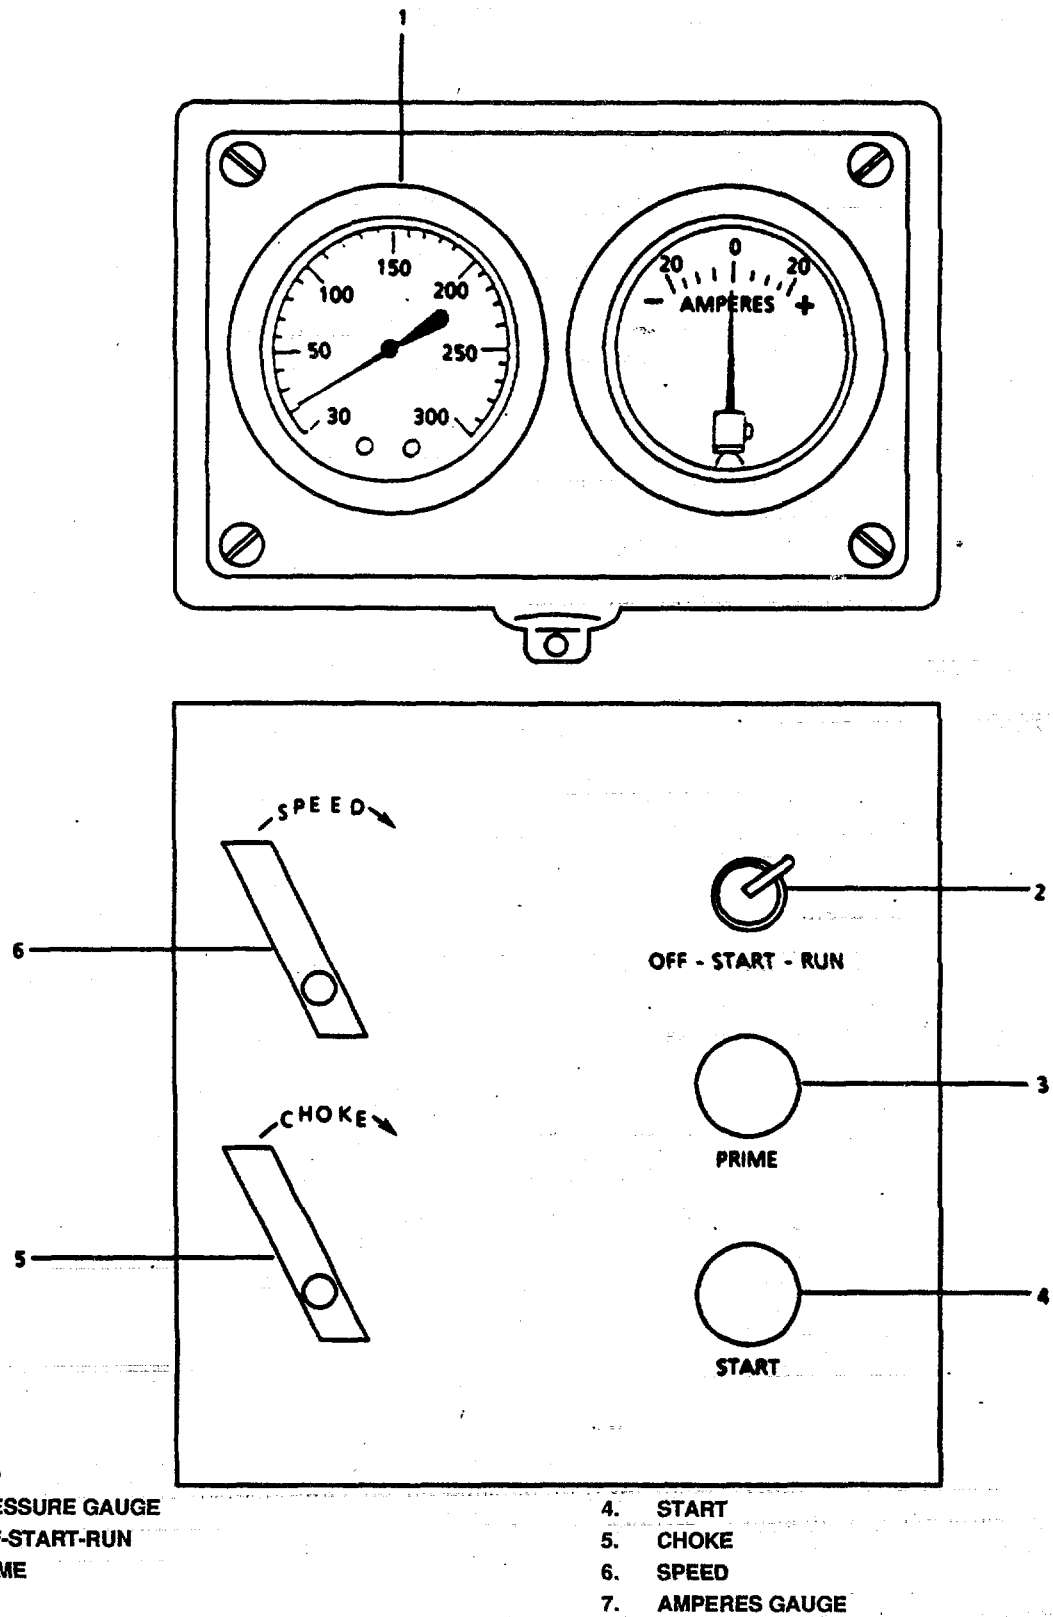

FIGURE 2-201. Portable Firefighting Pump. Gasoline Engine Driven.
- (2) Connect red battery cable to (+) positive pole next to carburetor and black cable to (-) negative pole next to main pump suction inlet.
- (3) Place OFF-START-RUN switch (2, FIGURE 2-201) in start position.
- (4) Advanced SPEED control (6) in clockwise direction, to one quarter of full throttle.
- (7) Push in PRIME pushbutton (3, FIGURE 2-201) until pump is primed.
- (8) Slowly turn water discharge valve (3, FIGURE 2-200) clockwise until indicating pressure on gauge (1, FIGURE 2-201) and advance speed control (6) as required.
- (9) Release PRIME pushbutton (3) after priming pump.
- (10) Place OFF-START-RUN switch (2) in RUN position.
- (11) Rotate CHOKE control (5) to full counterclockwise, OFF position.
- (2) Fill pump with water until filler cap is full, replace plug in priming inlet.
- (3) Place OFF-START-RUN switch (2, FIGURE 2-201) to START position.
- (4) Advance SPEED control (6) in clockwise direction, 1/4 full throttle.
- (6) Open water discharge valve (3, FIGURE 2-200) slowly and advance engine SPEED control (6, FIGURE 2-201) as required to attain desired pumping pressure.
- (7) Place OFF-START-RUN switch (2) in RUN position.
- (8) Rotate CHOKE control (5) to full counterclockwise position.
- (1) Rotate SPEED control (6, FIGURE 2-201) to full counterclockwise idle position.
- (2) Place OFF-START-RUN switch (2) in OFF position.
- (1) Clear discharge port of priming pump.
- (4) Advanced SPEED control (6) clockwise direction, to one quarter of full throttle.
- (8) Slowly turn water discharge valve (3, FIGURE 2-200) clockwise until indicating pressure on gauge (1, FIGURE 2-201) and advance SPEED control (6) as required.
- (10) Place OFF-START-RUN switch (2, FIGURE 2-201) in RUN position.
(11) Rotate CHOKE control (5) to full counterclockwise, OFF position.
(2) Fill pump with water until filler inlet is full, replace plug (5) in filler inlet.
(3) Connect red battery cable to (+) positive pole next to carburetor and black cable to (-) negative pole next to main pump suction inlet.
(4) Place OFF-START-RUN switch (2, FIGURE 2-201) in start position.
(5) Advanced SPEED control (6) clockwise direction, to one quarter of full throttle.
(7) Slowly turn water discharge valve (3, FIGURE 2-200) clockwise until indicating pressure on gauge (1, FIGURE 2-201) and advance speed control (6) as required.
(8) Rotate CHOKE control (5) to full counterclockwise, OFF position.